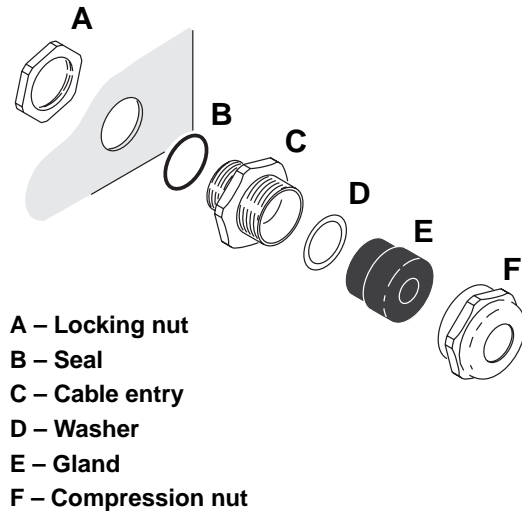

Figure 8: Cable gland assembly
4. See Figure 8. Ensure that there is a rubber seal **B** on the locking nut end of the cable gland **C**, and push this end through the hole provided in the housing so that the seal faces the outer surface of the housing.